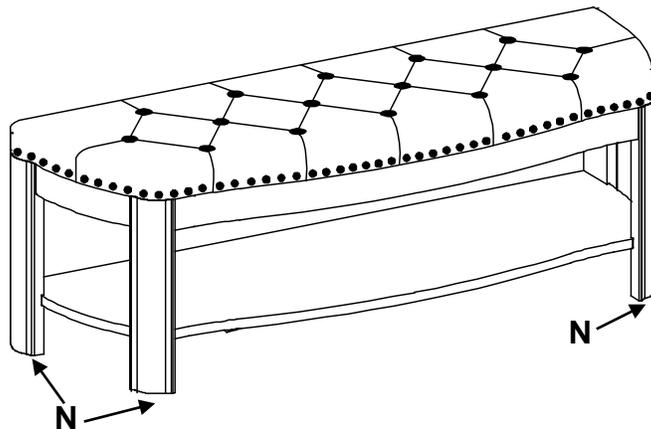

Fig. 4
Place the bench at its final destination. Rotate the Adjustable Glides (N) on the bottoms of the legs until the unit is level. See Figure 4.